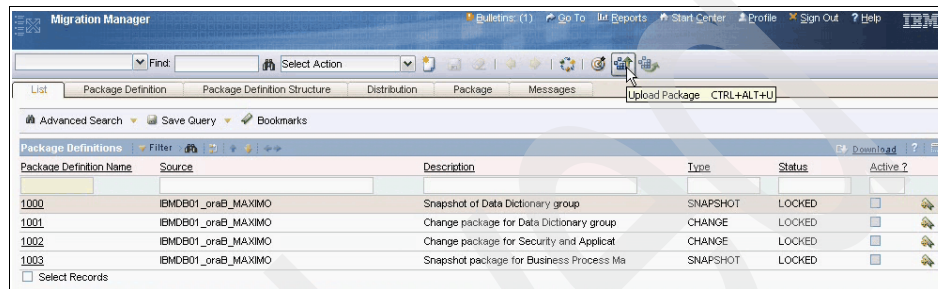

Figure 8-44 Upload package
2. Click the **Upload Package** button, as shown in Figure 8-44.